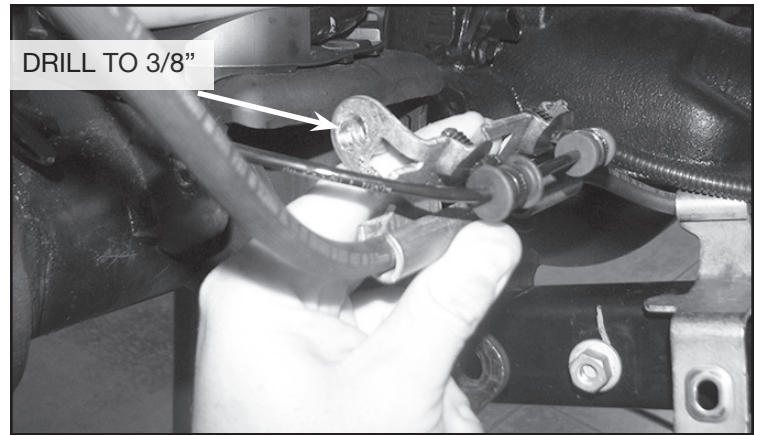

FIGURE 15 - STEP 15
15. Using a drill and 3/8" drill bit, drill the nut out on the lower brake line bracket that mounts to the lower coil spring perch. **SEE FIGURE 15**